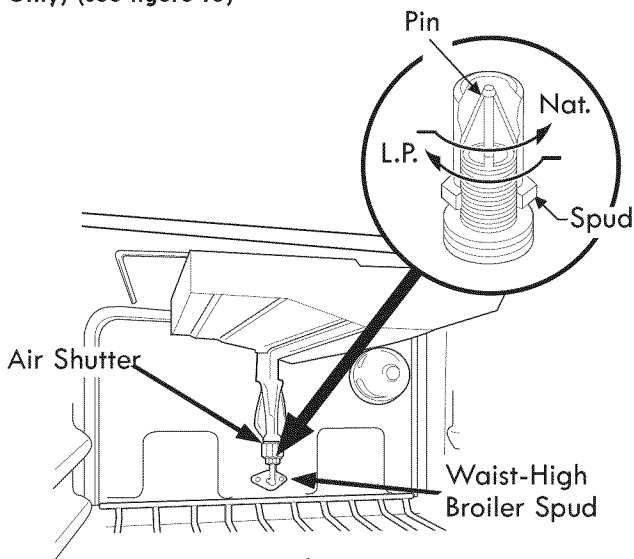

Figure 10
C. Adjust Broiler Burner Orifice (Self-Cleaning Models Only) (see figure 10)
Using a 1/2" wrench, turn down the adjustable spud which injects gas into the oven burner. Turn spud approximately 2 1/2 turns until snug against the LP metering pin. Do not overtighten (see figure 10).